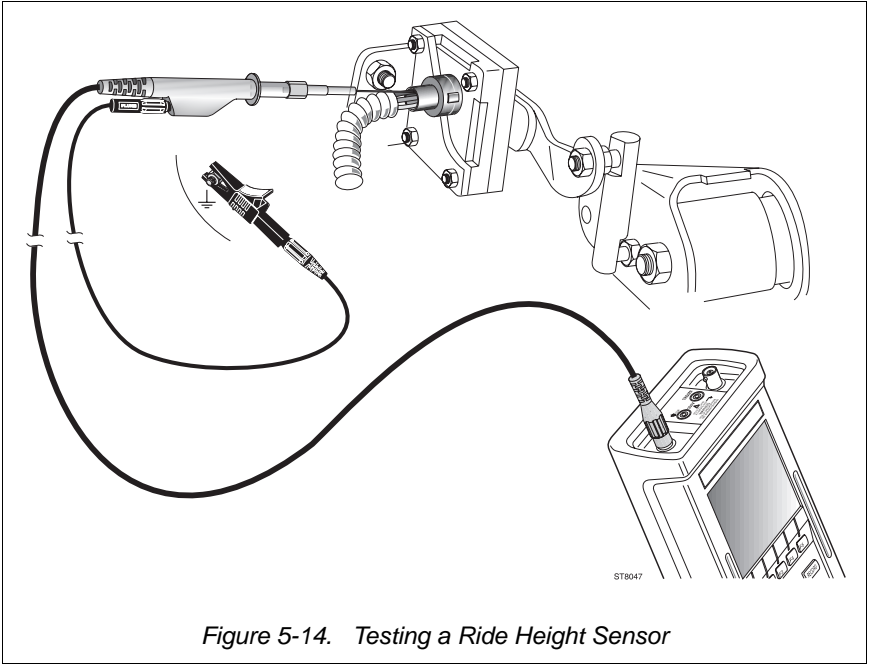

Figure 5-14. Testing a Ride Height Sensor
③ Connect the test leads as displayed by the test tool's Connection Help and shown in Figure 5-14.
④  Starts the sweep test.